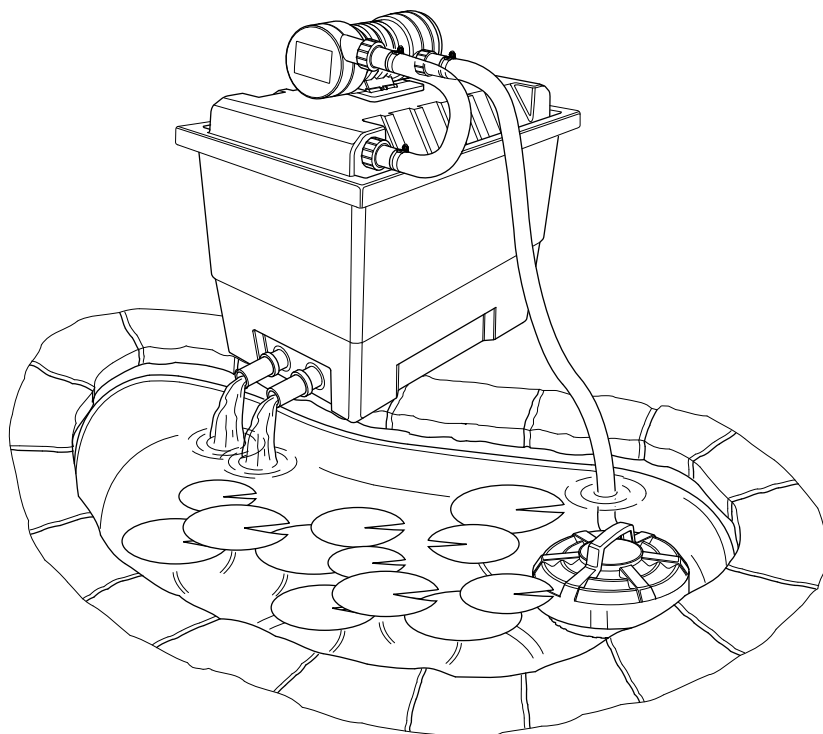

Fig. 1
- 3.1 The Hozelock Cyprio Vorton UVC can be added to most filter systems before or after filtration, the effect is the same. The water must be pumped through the unit - not gravity fed. A typical installation is shown in fig 1.